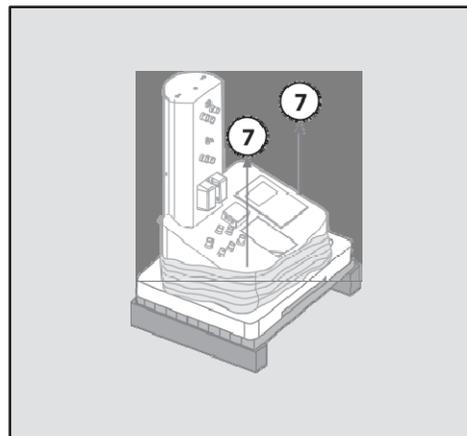

Fig 1.10: Lift the CliniMACS® plus Instrument.
7. Unwrap the large shipping bag (see Fig. 1.10). Two people should carefully lift the CliniMACS® plus Instrument onto a flat, stable surface which is capable of supporting 100 kg. The instrument should be lifted under each of the four corners at the base of the instrument.